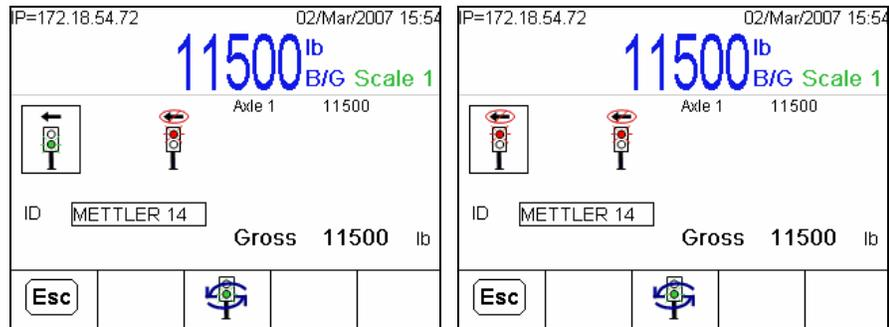

Figure 6-23: Manual Control Softkey Ready to Change Lights
2. Pressing the Manual Control softkey interrupts the transaction, and gives the operator control over the sequence. Notice that the softkey changes (Figure 6-23) to indicate that the operator can use it to toggle the state of the selected light.